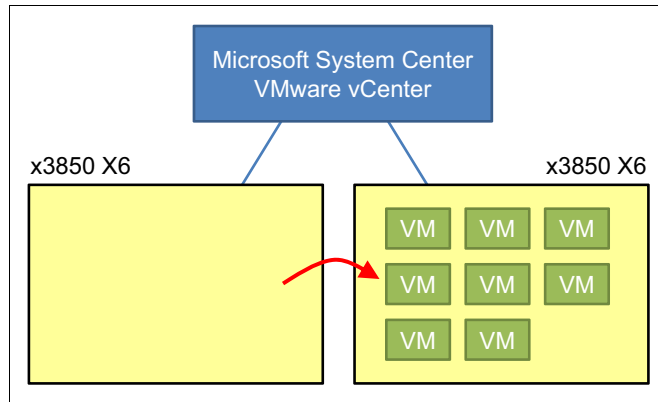

Figure 7-22 UIM evacuates first servers VMs for updating
- Any virtual machines (VMs) that are running on the first server are moved from the first server to another server, as shown in Figure 7-22.